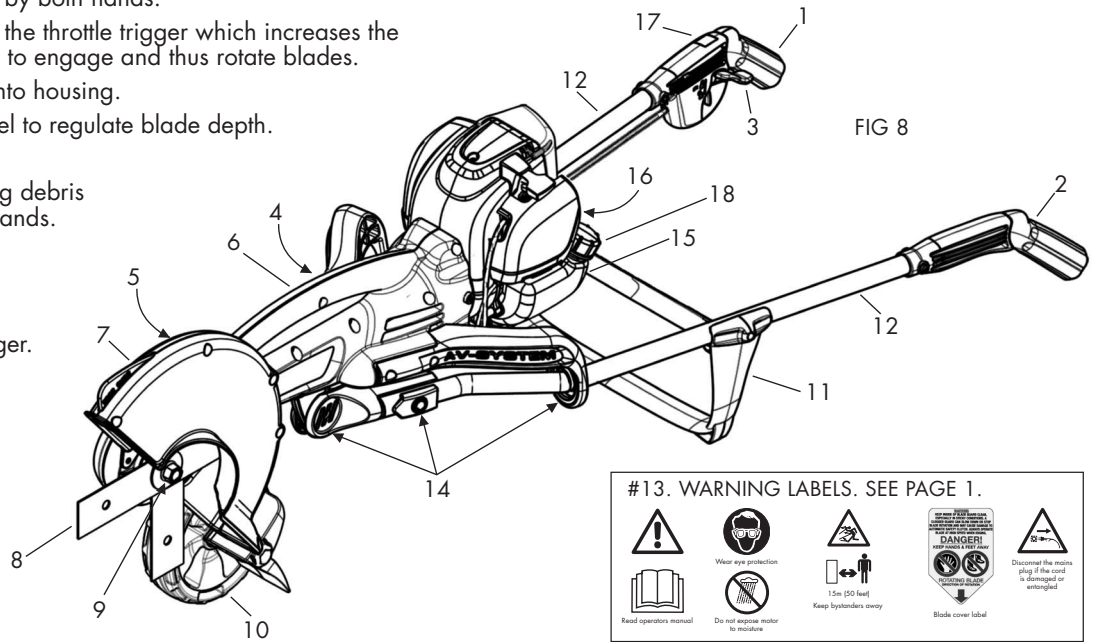

FIG 8
8. When assembled unit will look like Fig. 8.
5. If blade is not deep enough, or if digging too deep, adjust blade height, to suit depth required (Fig. 8). **It is always more comfortable and relaxed to have arms fully extended downwards** as shown in Fig. 16 and on front cover illustration.